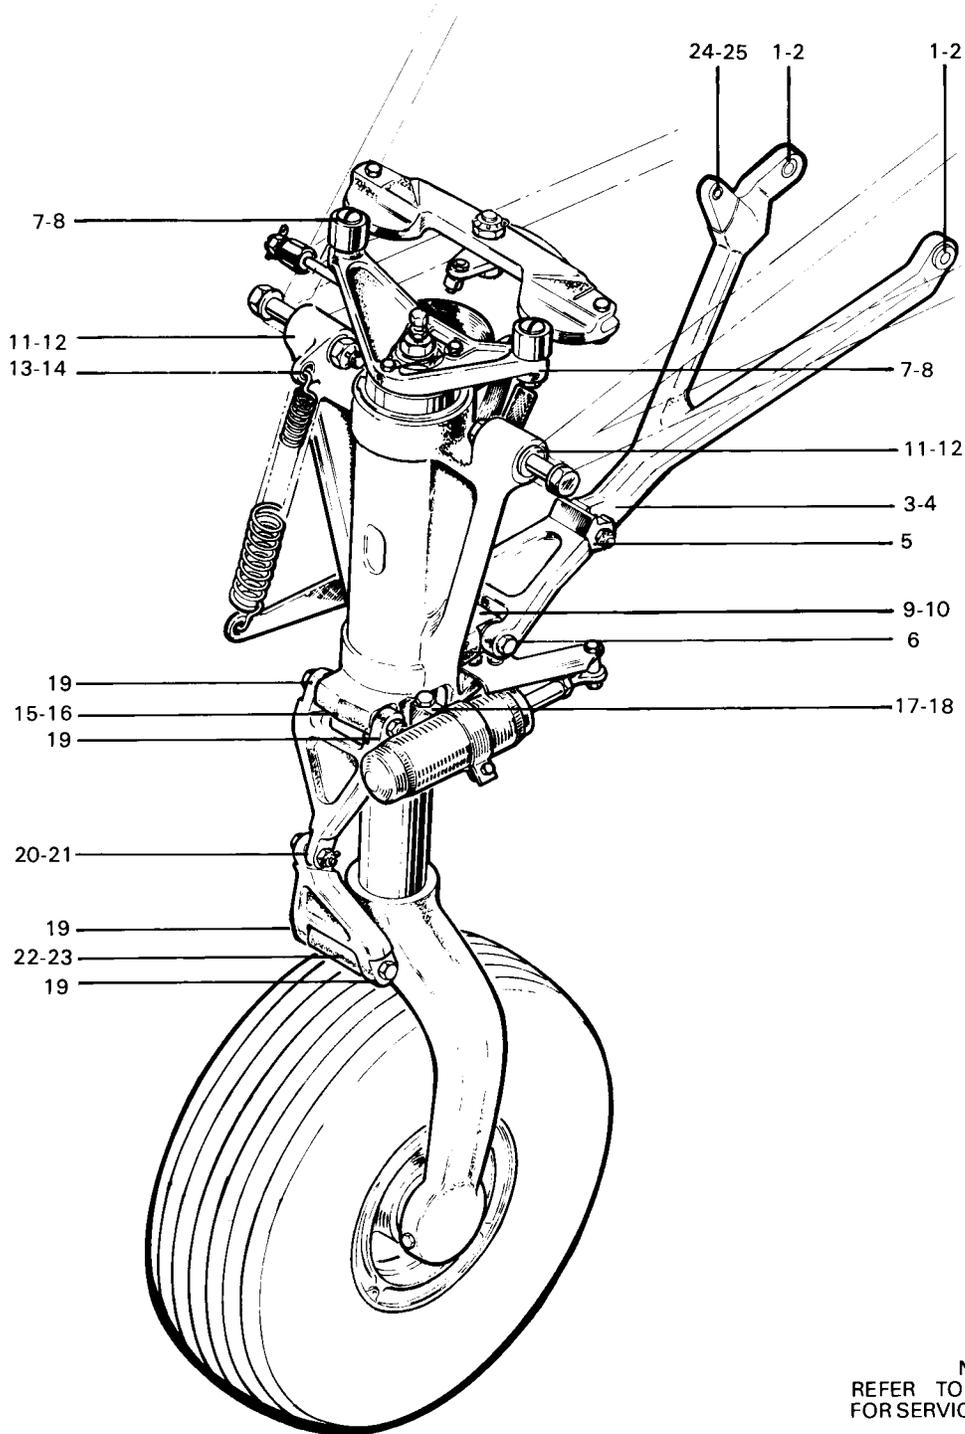

Figure 32-5a. Nose Gear Service Tolerances
**CLEANING, INSPECTION AND REPAIR OF NOSE LANDING GEAR.** (Refer to Figure 32-5a.)